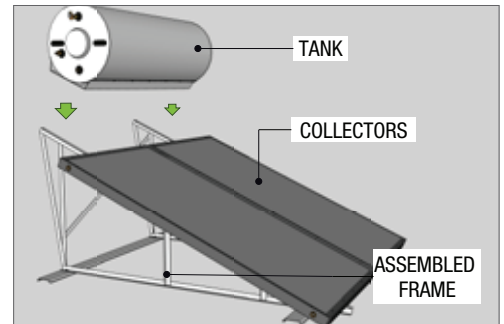

Fig 6
11. Carefully lift the storage tank into position and centralise it along the top edge of the collectors (Fig 6)